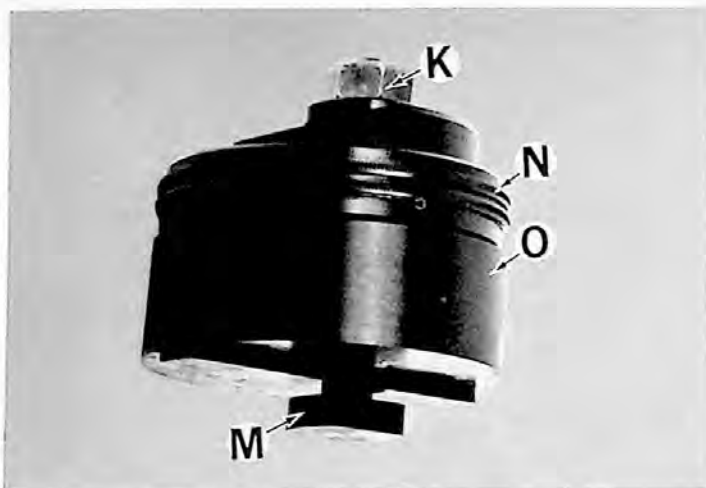

Figure 11 — Tool Support and Components
5. Remove nut "K", Figure 11, washer and spring "L", Figure 12. Remove T-Bolt "M", Figure 11.
6. Unscrew adjusting nut "N", Figure 11, from tool post support "O".